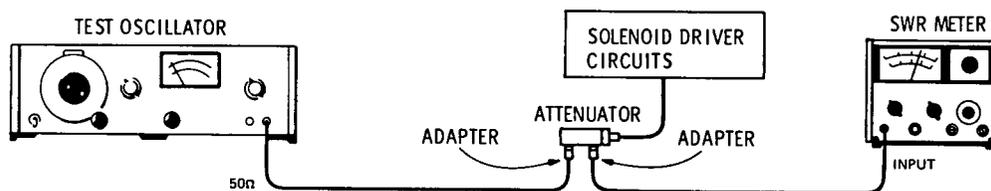

Figure 4 Operator's Check Setup
1. Connect equipment as shown in Figure 4 on page 12 with the attenuator set to 0 dB attenuation.